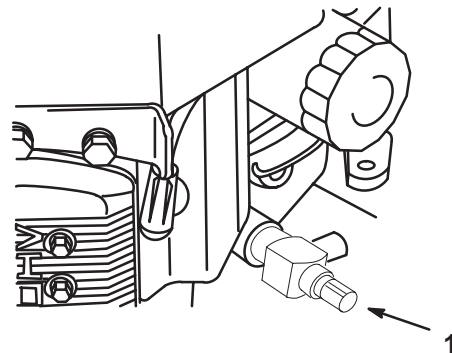

Figure 34
6. Place a pan below the drain hose. Rotate oil drain valve to allow oil to drain (Fig. 34).
8. Remove the drain hose (Fig. 34).